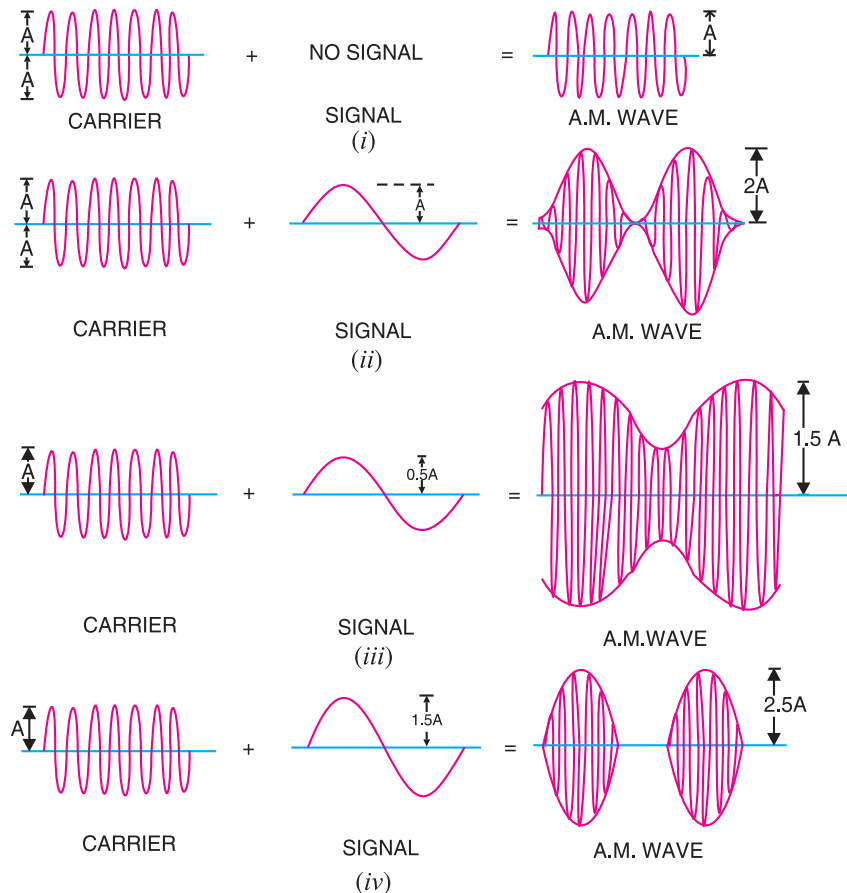

Fig. 16.3
The value of modulation factor depends upon the amplitudes of carrier and signal. Fig. 16.3 shows amplitude modulation for different values of modulation factor m .
- (i) When signal amplitude is zero, the carrier wave is not modulated as shown in Fig. 16.3 (i). The amplitude of carrier wave remains unchanged.
(ii) When signal amplitude is equal to the carrier amplitude as shown in Fig. 16.3 (ii), the amplitude of carrier varies between 2A and zero.
(iii) When the signal amplitude is one-half the carrier amplitude as shown in Fig. 16.3 (iii), the amplitude of carrier wave varies between 1.5 A and 0.5 A.
(iv) When the signal amplitude is 1.5 times the carrier amplitude as shown in Fig. 16.3 (iv), the maximum value of carrier wave becomes 2.5 A.
Importance of modulation factor. Modulation factor is very important since it determines the strength and quality of the transmitted signal. In an AM wave, the signal is contained in the variations of the carrier amplitude. When the carrier is modulated to a small degree (*i.e.* small m), the amount of carrier amplitude variation is small. Consequently, the audio signal being transmitted will not be very strong. The greater the degree of modulation (*i.e.* m), the stronger and clearer will be the audio signal. It may be emphasised here that if the carrier is overmodulated (*i.e.* $m > 1$), distortion will occur during reception. This condition is shown in Fig. 16.3 (*iv*). The AM waveform is clipped and the envelope is discontinuous. Therefore, degree of modulation should never exceed 100%.